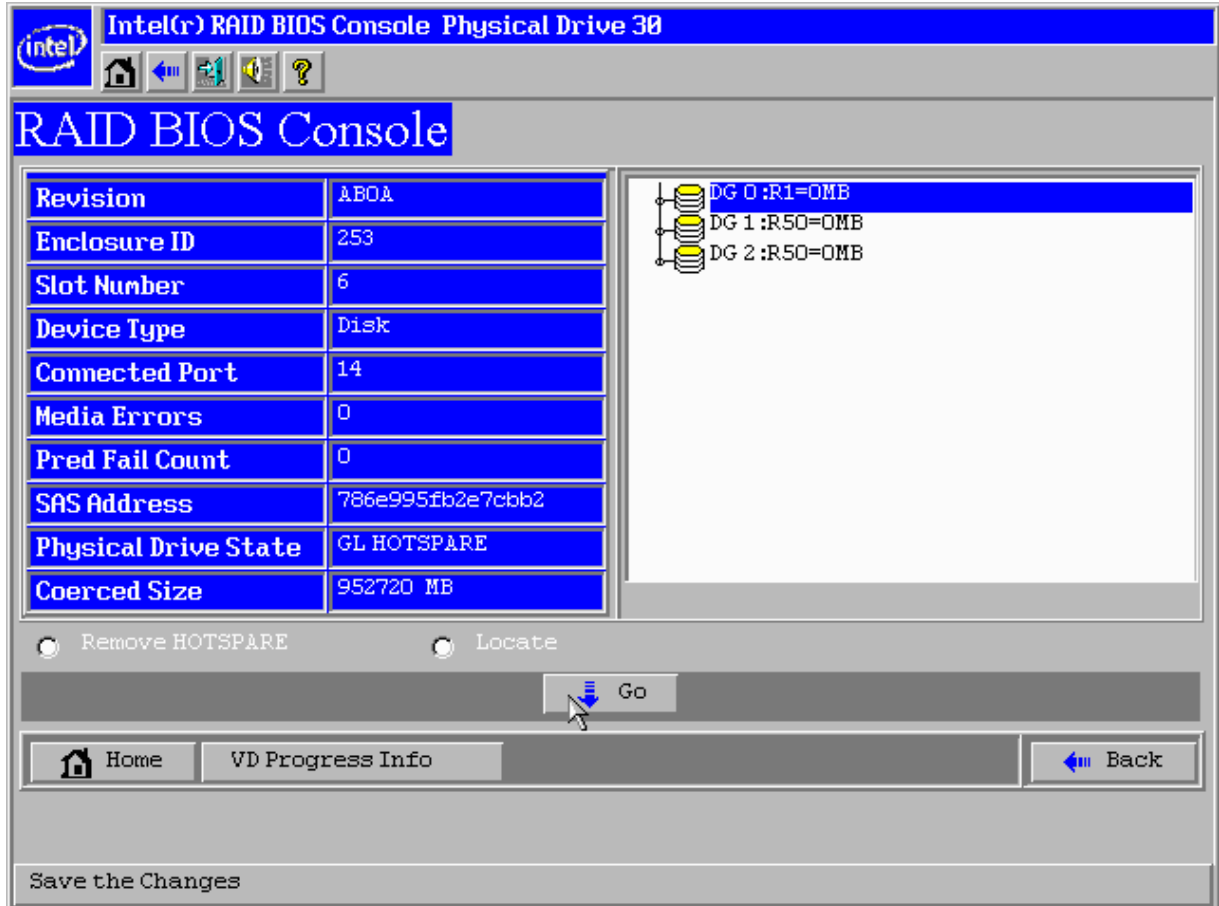

Figure 38. RAID BIOS Console Physical Drive Screen – Global HSP Configured
- On the next screen (see Figure 38), confirm that you made a global hot spare for your RAID configuration.